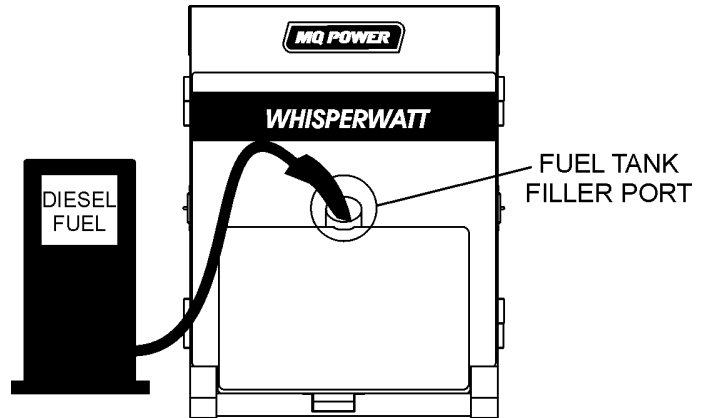

Figure 32. Fueling the Generator
3. Open cabinet doors on the “right side” of the generator (from generator control panel position). Remove fuel cap and fill tank (Figure 32).